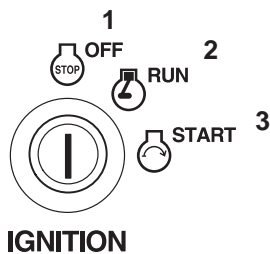

Figure 16
6. Turn the ignition key to Start to energize the starter. When the engine starts, release the key (Fig. 16).
3. Let the engine idle for 60 seconds (Fig. 16).
4. Turn the ignition key to off (Fig. 16).